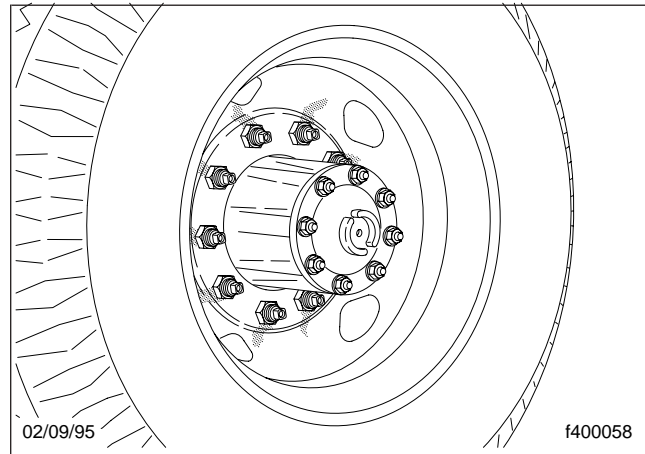
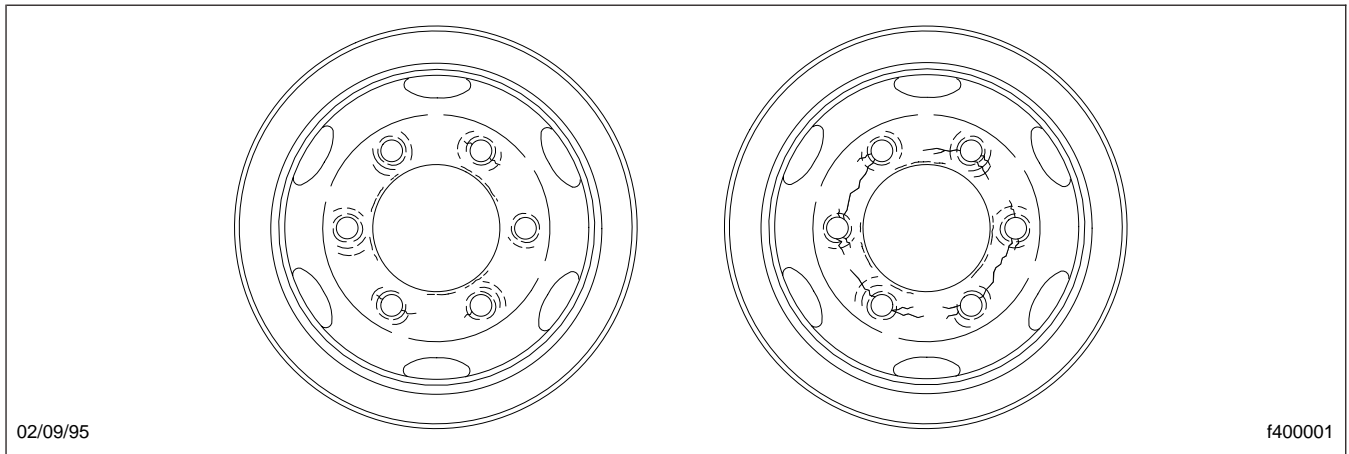

Fig. 11.8, Dirt and Rust Streaks from the Stud Holes
Fig. 11.9, Worn Stud Holes
- 20.1 Remove all dirt and foreign material from the assembly. Dirt or rust streaks from the stud holes, metal buildup around stud holes, or out-of-round or worn stud holes may be caused by loose wheel nuts. See Fig. 11.8 and Fig. 11.9.